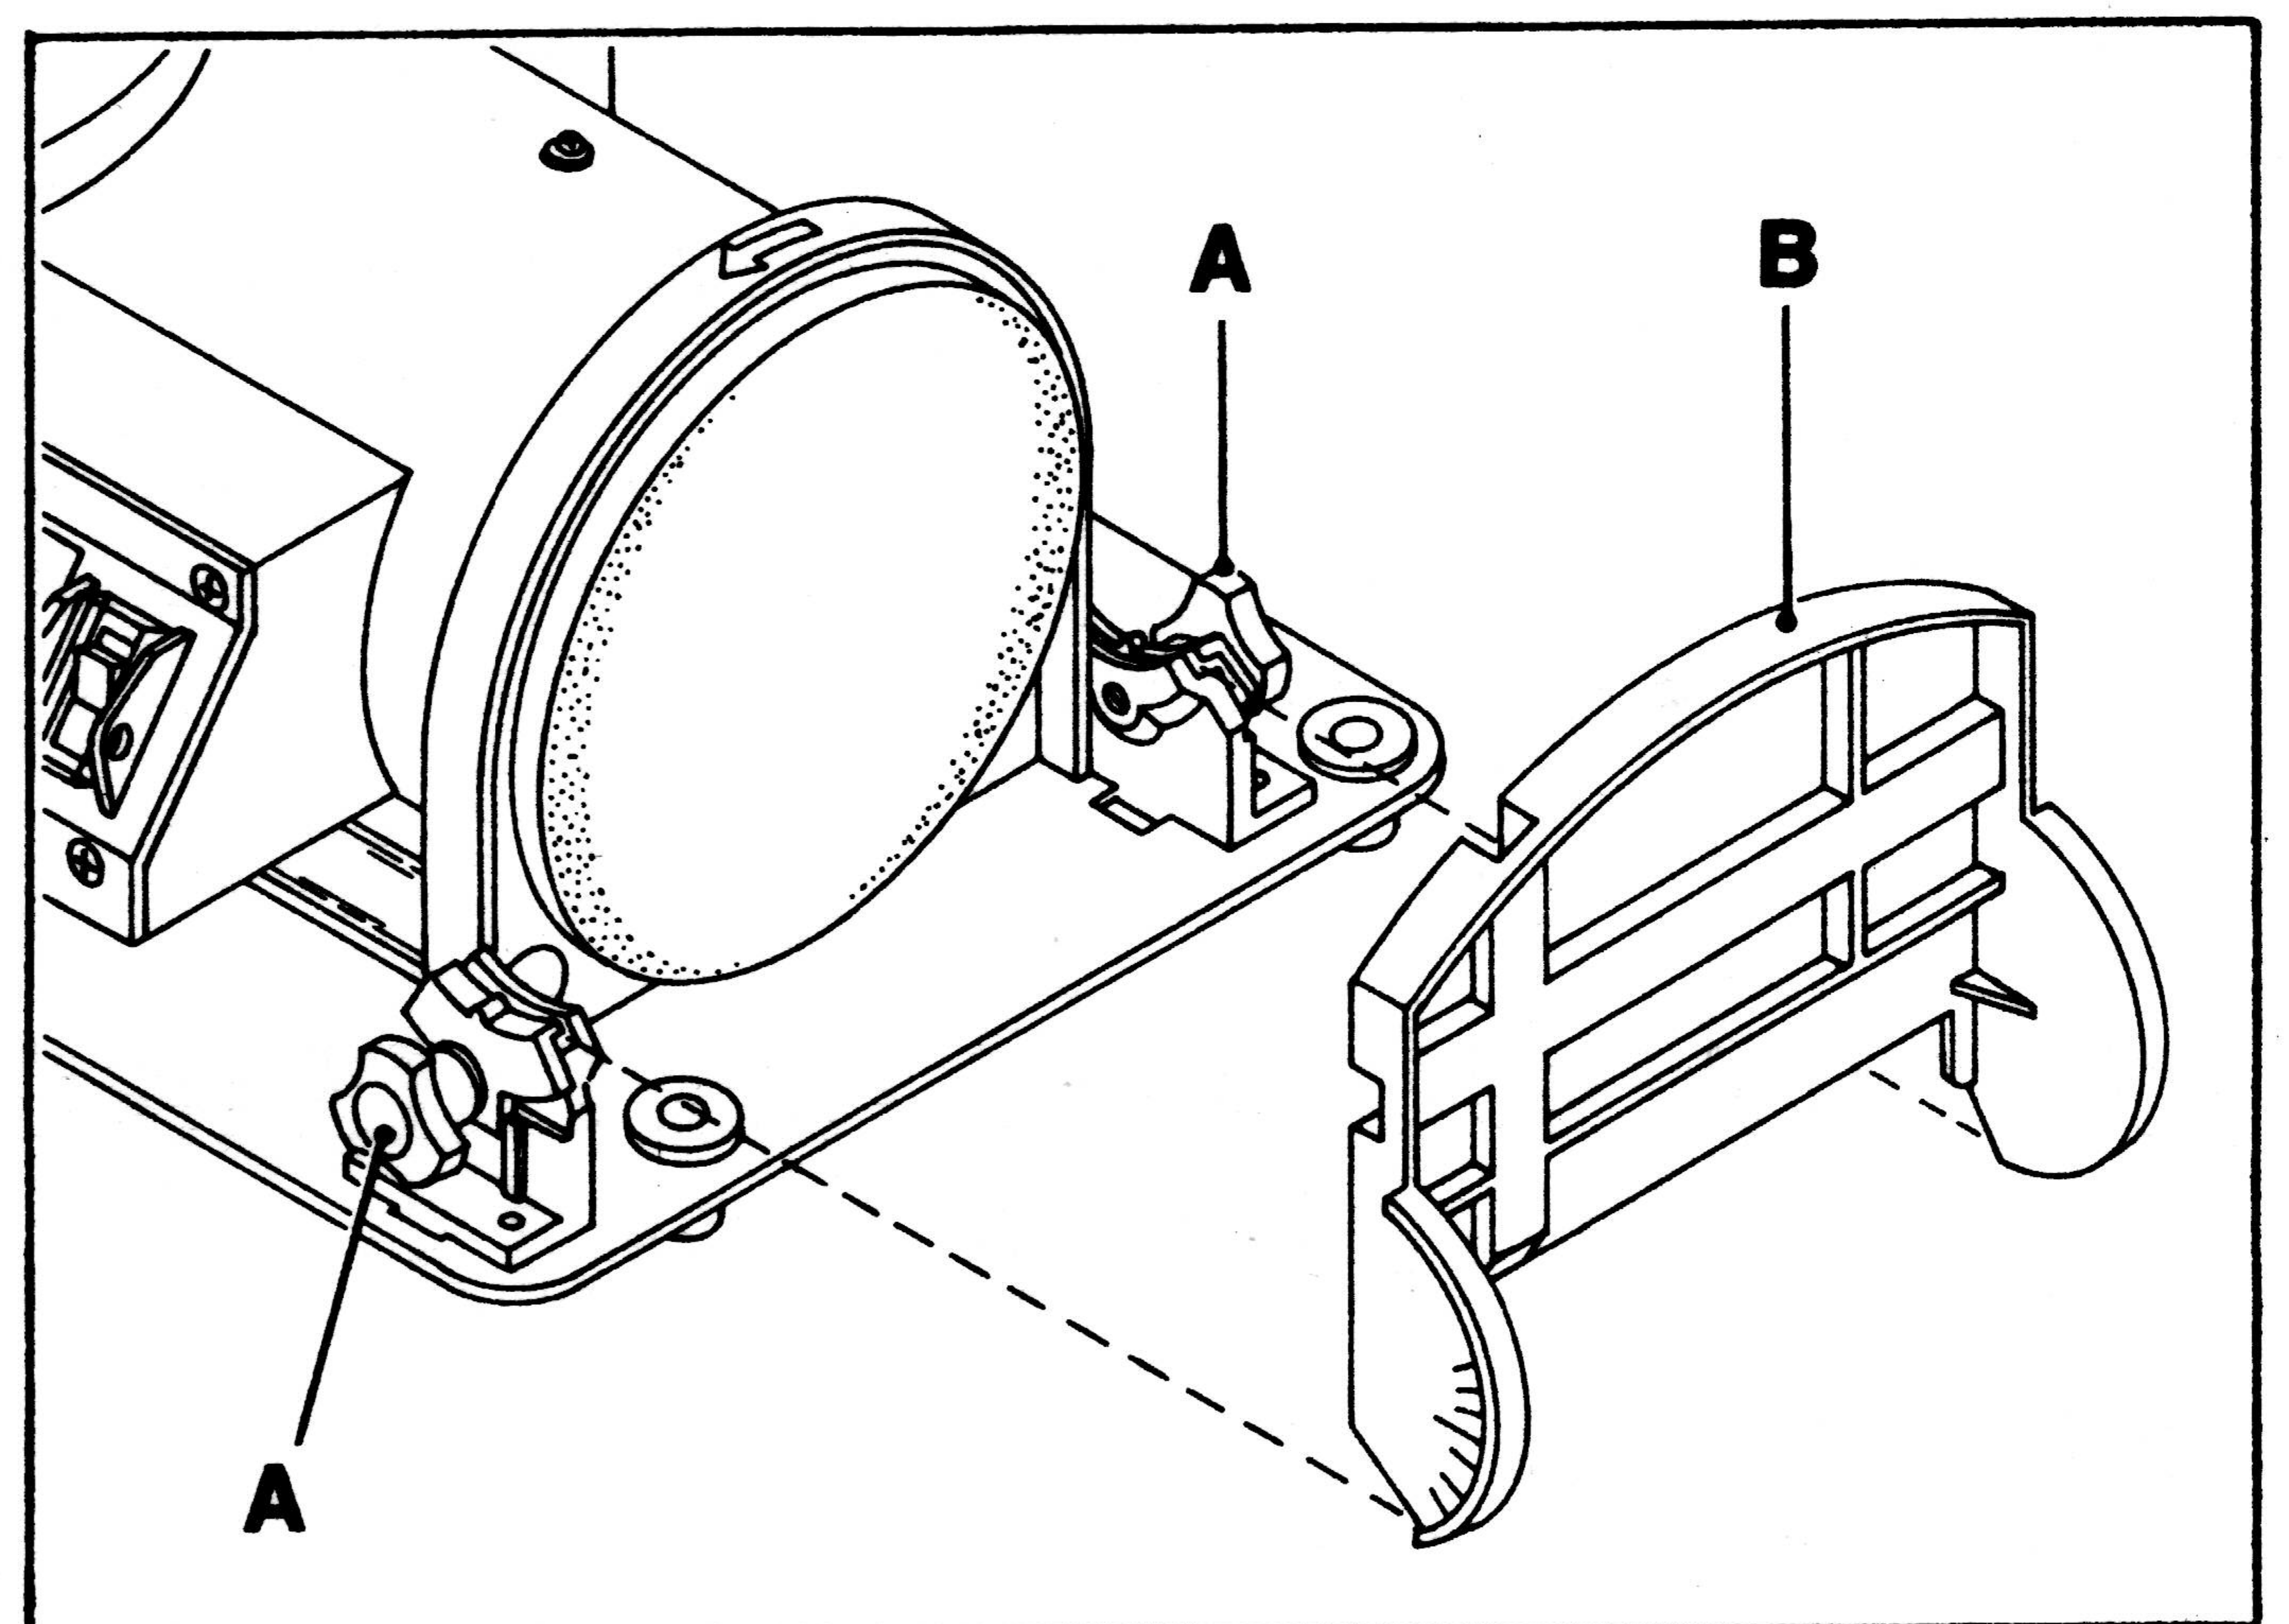

Fig. 19
1. Loosen disc table adjustment knobs (A) and remove disc table (B) from sander Fig. 19.